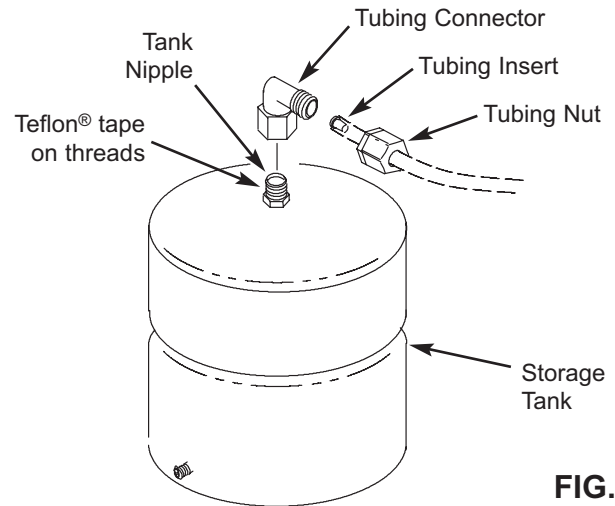

FIG. 13
1. Apply Teflon® tape (2 wraps clockwise) to the threads on the nipple at the top of the tank. See Fig 13.
2. Locate the tubing connector. See Fig. 13. Slowly tighten the tubing connector onto the tank nipple 7-8 full turns, so as not to cross thread or overtighten.